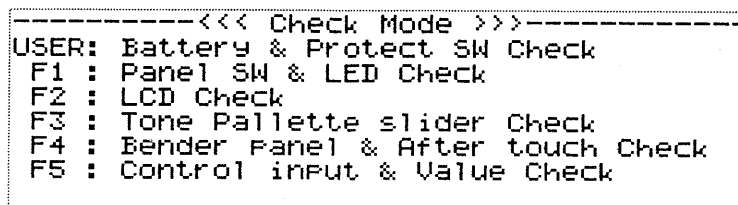

Fig.2
b. To execute items 3-8
2. While pressing number button [7], turn the power on. The LCD of figure 2 will appear.